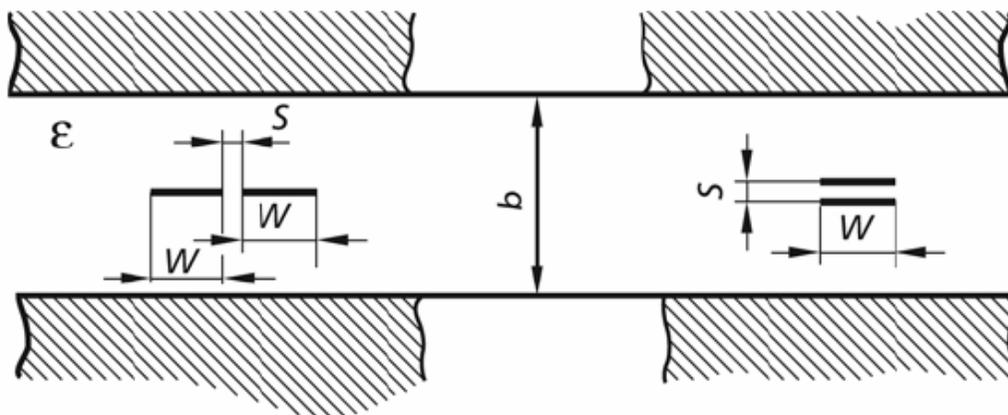

Fig. 22: Types of coupled striplines [14]: left: side coupled parallel lines, right: broad-coupled parallel lines
- ◆ The analysis of coupled striplines is required for the design of directional couplers. Besides the phase velocity the odd and even mode impedances $Z_{0,odd}$ and $Z_{0,even}$ must be known. They are given as a good approximation for the side coupled structure (Fig. 22, left) [14]. They are valid as a good approximation for the structure shown in Fig. 22.